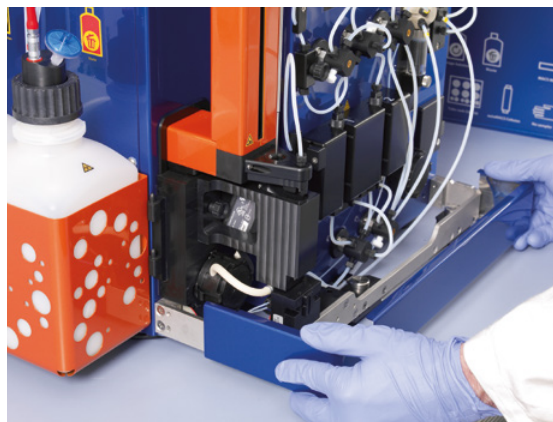

Figure 7.9: The bottom cover must be removed for access to the lower valve.
- 4 If necessary, pull out the bottom cover as depicted in figure 7.9.